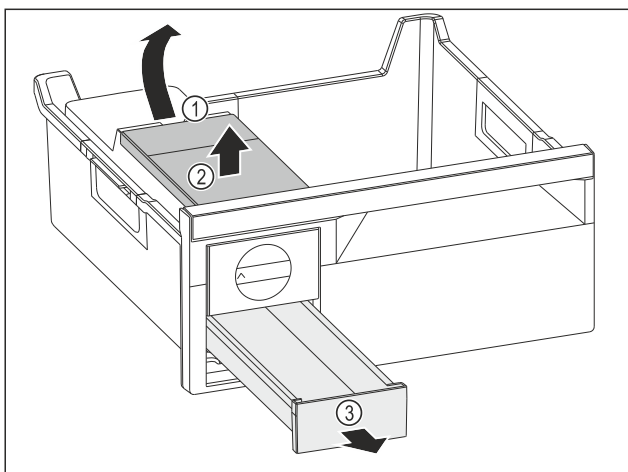

Fig. 129
- ▶ Removing the water tank: Lift the water tank by the recess Fig. 129 (1).
- ▶ Remove the water tank Fig. 129 (2) upwards.
- ▶ Remove the ice cube drawer Fig. 129 (3) to the front.